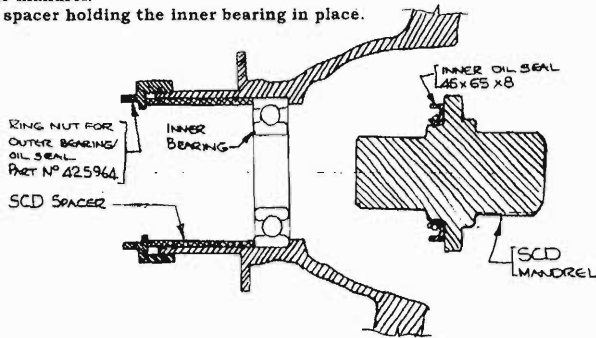

Fig 2
- 2) Feed the splined stub axle through from the back of the hub until the outer bearing area (L) reaches the outer edge of the inner bearing.
- 3) Feed the inner spacer (G) over the stub axle and then the outer spacer (H). Now fit the outer bearing and the outer bearing retaining ring complete with its oil seal and lock in place with the locking tab.
- 4) Screw the pulling rod of the fitting tool (see Figure 2) onto the stub axle (J), oil the thread of the pulling rod and feed the body of the puller over it until it locates on the rim of the outer bearing retaining ring. Grease the face of the body of the puller and the mating face of the shouldered nut and tighten continuously, thus pulling the stub axle through the inner and outer bearings.
- 6) Feed the outer spacer (F) onto the stub axle and fit the brakedrum ensuring that the " " & "- " marks on the stub axle are aligned with those on the brakedrum.